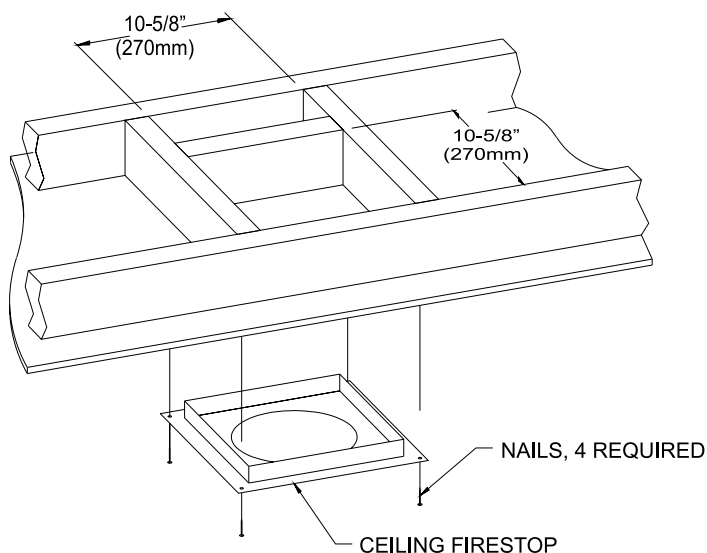
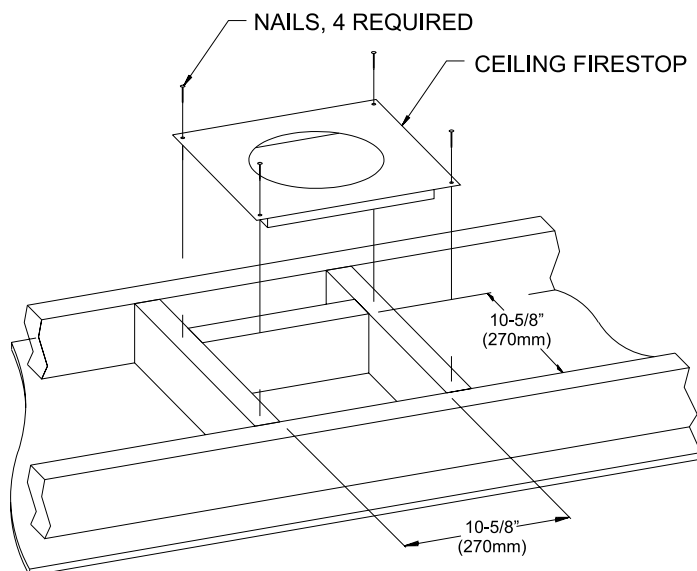

Figure 50
Figure 51
**See Figure 50.** If the area above the ceiling is an attic, position and secure the firestop on top of the previously framed hole. **See Figure 51.**